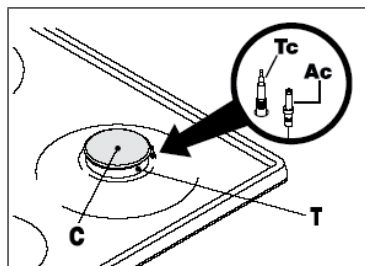

Figure 9
## Automatic electrical ignition (only certain versions, see figure 9, ref. Ac)
### Lighting of burners equipped with safety thermocouples (only certain versions, see figure 9, ref. Tc)
1. In case burners are fitted with Flame Safety Device (FSD = Thermocouple, figure 9, Tc), repeat operations described previously.
- The surface of the hob, pan supports, enamelled burner caps (C) and burner heads (T) (see figure 9) need to be cleaned after each time they are used with warm soapy water, rinsed and then dried well to keep them in good condition. Never clean when the top and components are still warm.
- Check that the heads burners and the relative burner caps are correctly positioned in their housings (see figure 9).